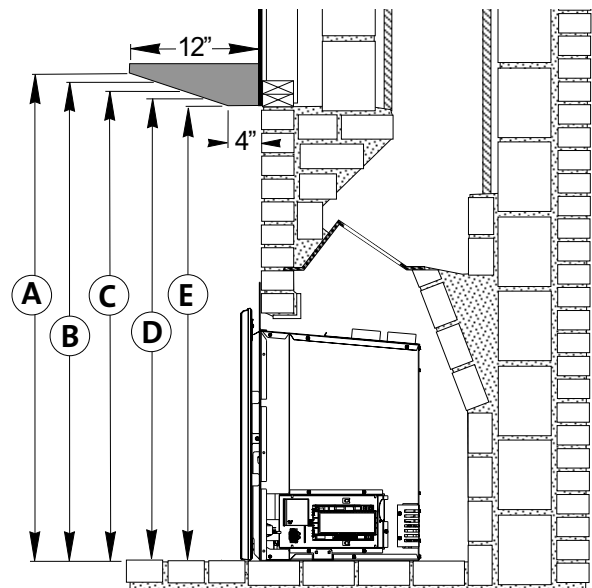

Figure 5.5. Baseline Mantel and Trim clearance requirements.
- F: Mantel Clearance from hearth:** See fig. 5.5.
Measure clearances from the finished floor of the fireplace opening. See fig. 5.5.